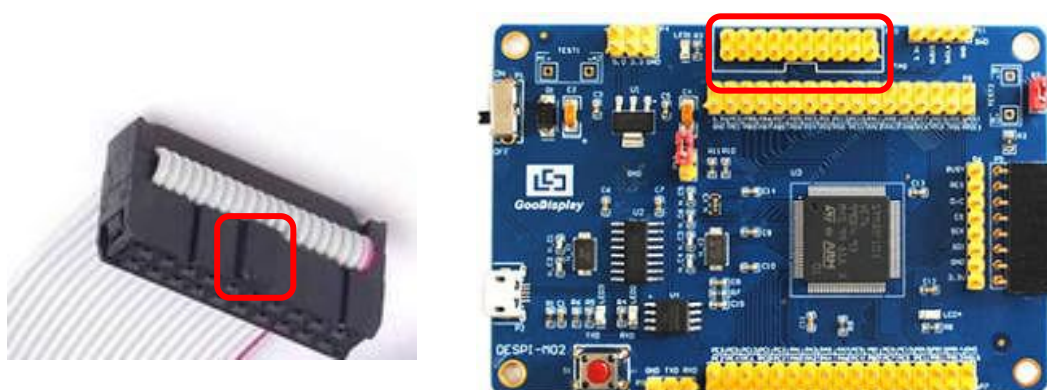

Figure 11 : Connection between JTAG and simulator
- 1) Connect the simulator to DESPI-M02's JTAG interface (align the raised part of the figure 11 simulator interface to the notch direction of the JTAG interface) and connect the computer USB port at the other end.